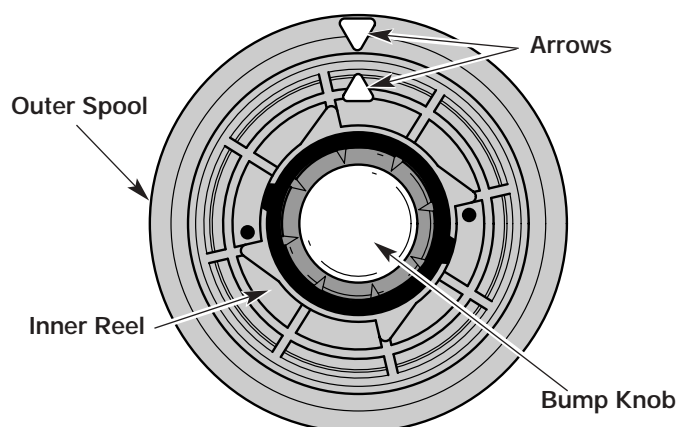

Fig. 46
2. Hold the outer spool and turn the inner reel counterclockwise to line up the arrows on the outer spool and inner reel (Fig. 46).